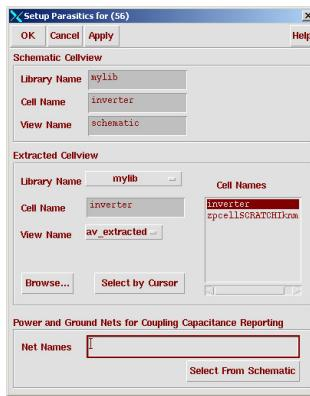

Figure 39. Setup Parasitics Window
15. Click **Parasitics**, then **Setup**. The **Setup Parasitics** window shown in Figure 39 should pop up.